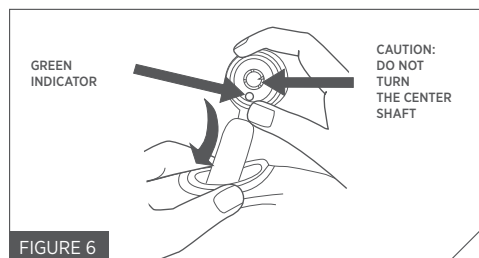

FIGURE 6
6. Check that the new inflator body indicator is green. Insert the new inflator body with CO₂ cylinder pointing upward inside the inflatable PFD/life jacket. Let the sealing ring rest on the adapter around the four lugs (Fig. 6).